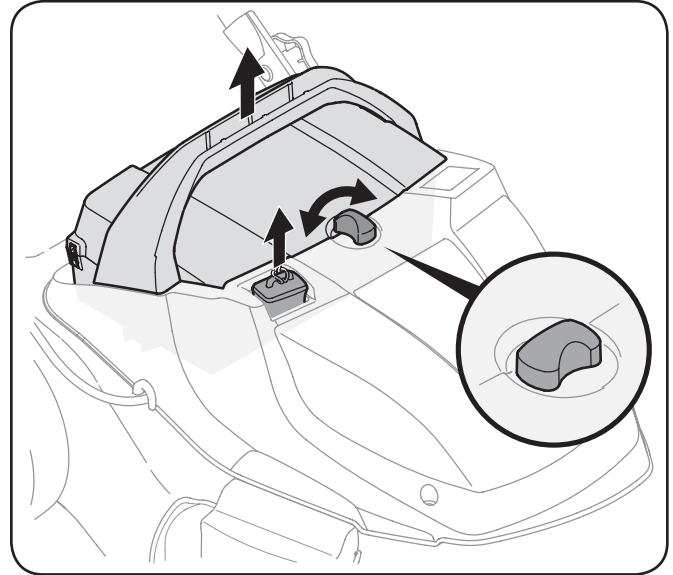

Figure 5-3
2. Turn the locking knob parallel to the battery and lift the battery off the mower base. See Fig. 5-3.